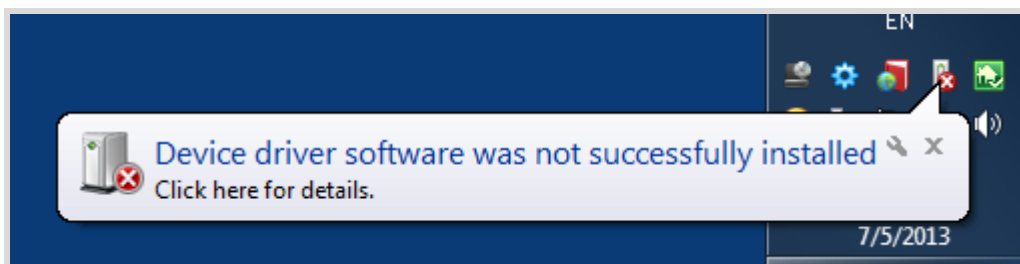

Figure 3. The "Windows 7" driver installation failed
- Wait until the Windows 7 fails to install the driver (Figure 3), then follow the steps below.
- Open the "Device Manager" and locate "ETL HyperF Programmer" devices (Figure 3).
- Open the "Device Manager" and locate "ETL Hyper Programmer" devices (Figure 3).